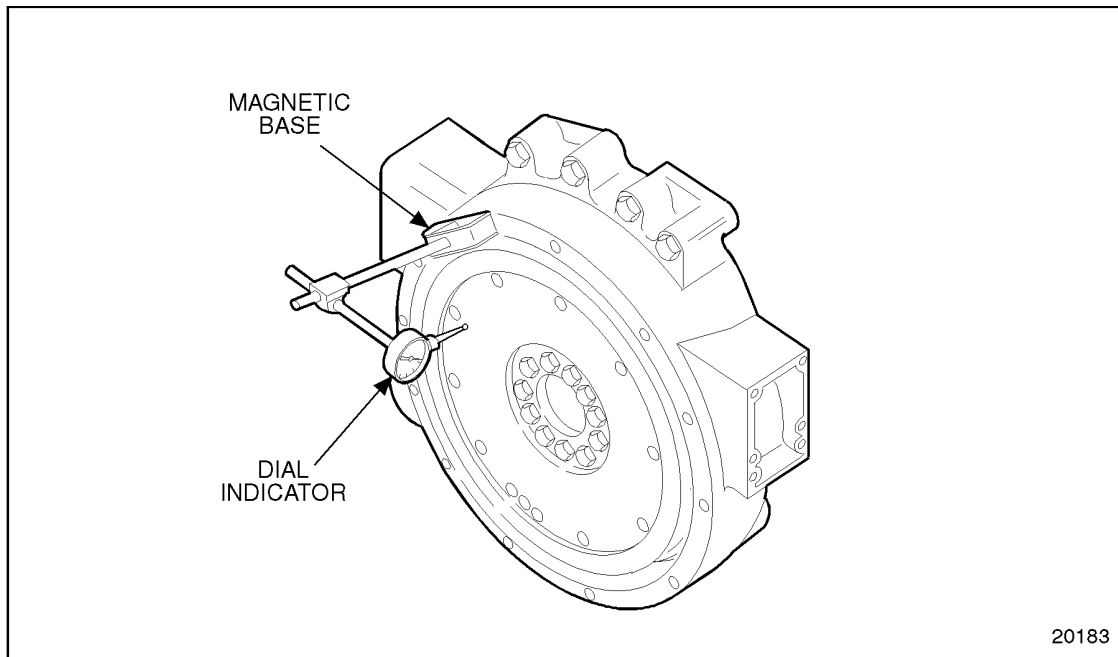

Figure 1-215 Measuring Flywheel Runout
11. Mount a dial indicator with a magnetic base on the flywheel housing. See Figure 1-215.